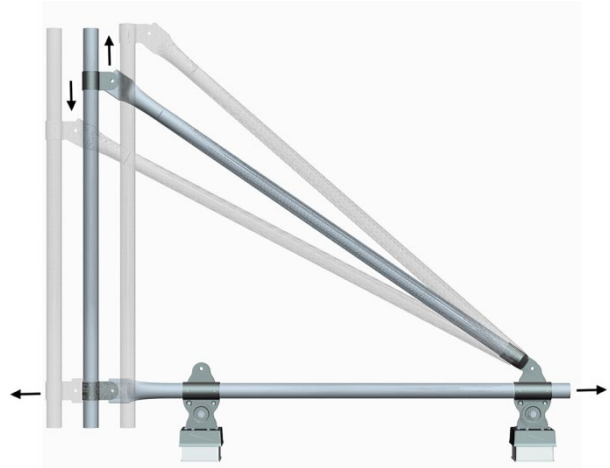

FIGURE 1
- **Front-to-Back:** The horizontal tube will slide forward and backward in the Base Assemblies allowing the installer to perfectly plane out the face of the screen. To keep the front tube plumb, the Field Connector that connects the diagonal tube will need to be adjusted up or down as indicated by the arrows in Figure 1.